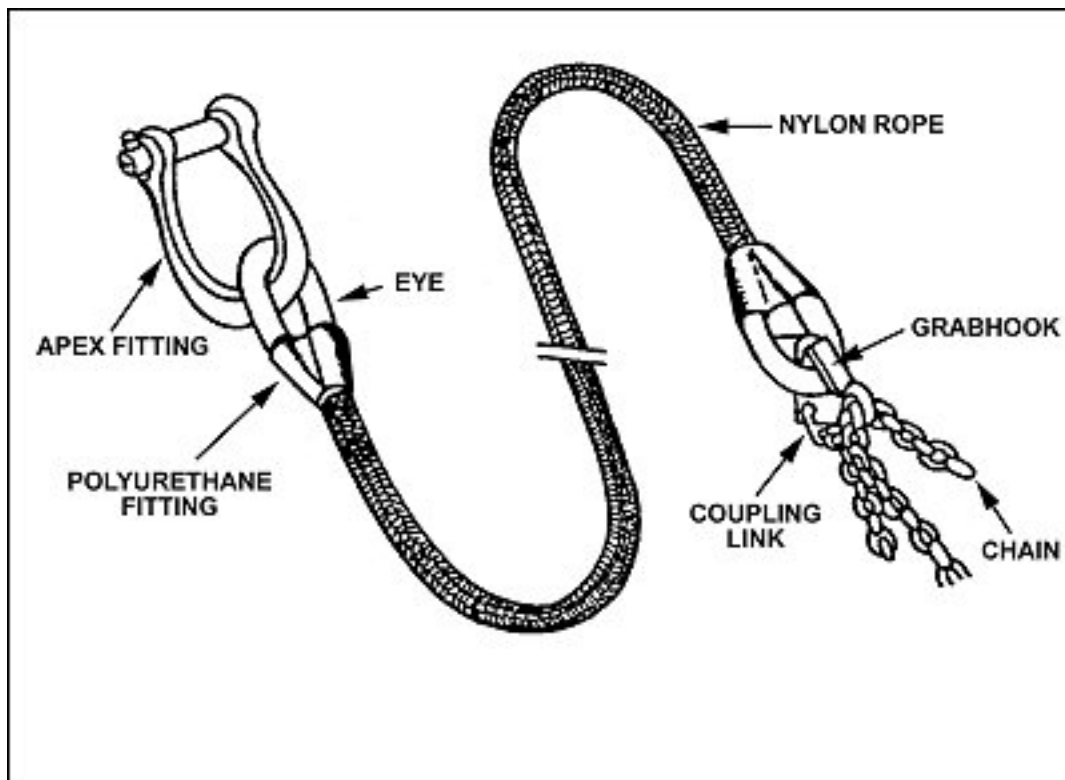
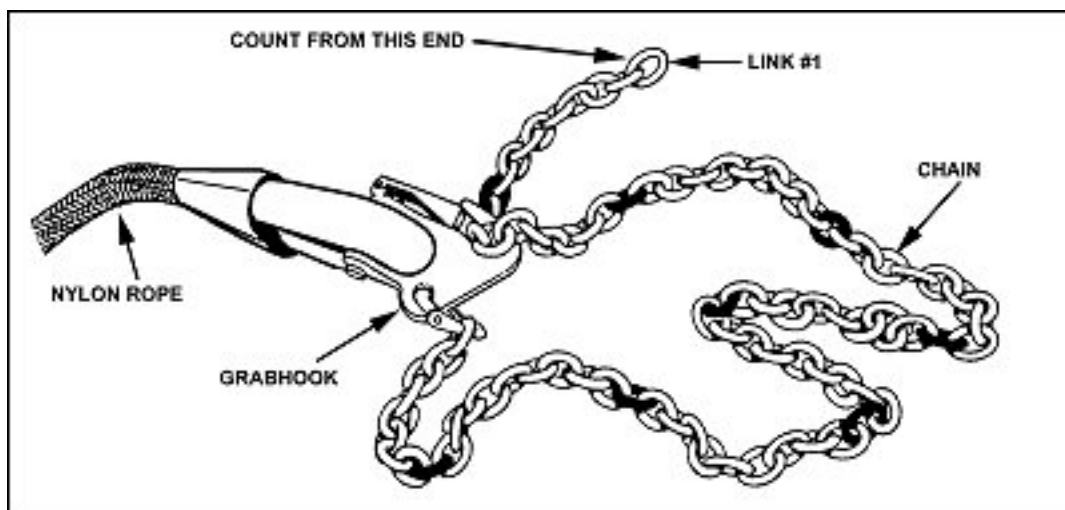
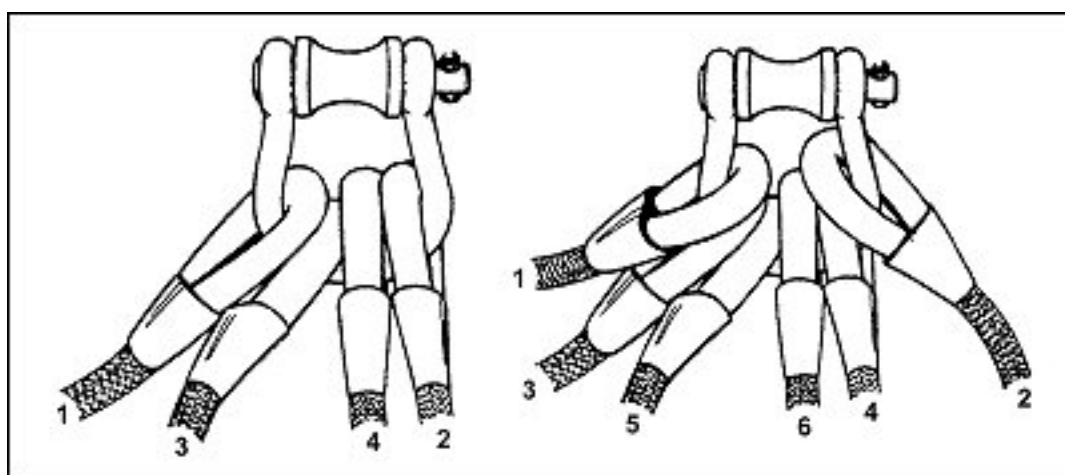
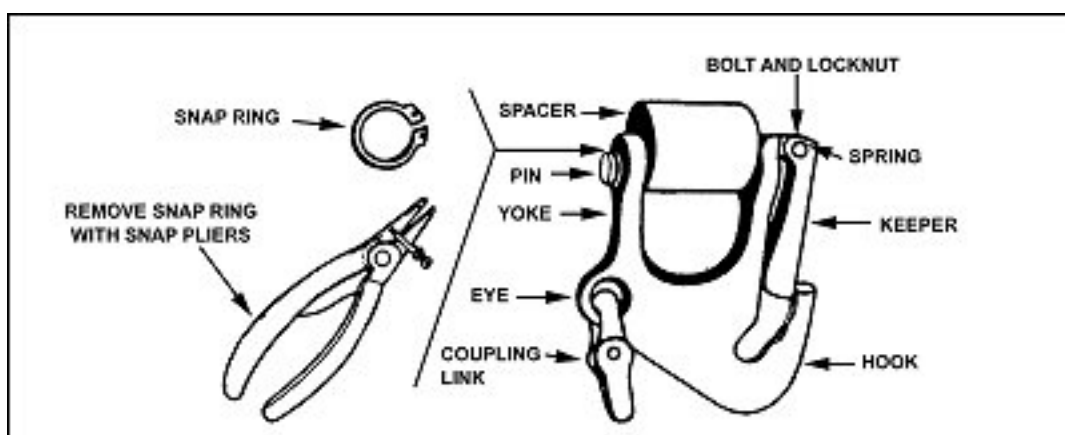

Figure 5-9. 25,000-pound capacity sling set.
Figure 5-10. Coupling link.
Figure 5-11. Sling leg-numbering sequence.
Figure 5-12. Grabhook.
e. **Large-Capacity Sling Sets.** The new 10,000-pound and 25,000-pound capacity sling sets are similar, except for a few minor differences. All components have identifying marks. You may only exchange apex fittings between sets. Take care not to mix up the other components. Table 5-3 compares these two large-capacity sling sets. Figure 5-9 shows one.
(1) The nylon rope assembly for each set has an interwoven eye located at each end. A polyurethane fitting covers the eye to protect the leg from abrasion and ultraviolet radiation (Figure 5-9). Each double-braided rope connects to a grabhook assembly. Figure 5-10, Figure 5-11, and Figure 5-12 show a coupling link, sling leg-numbering sequence, and a grabhook, respectively. Though the grabhooks for the two sets look alike, you cannot interchange them, because they have different ratings.